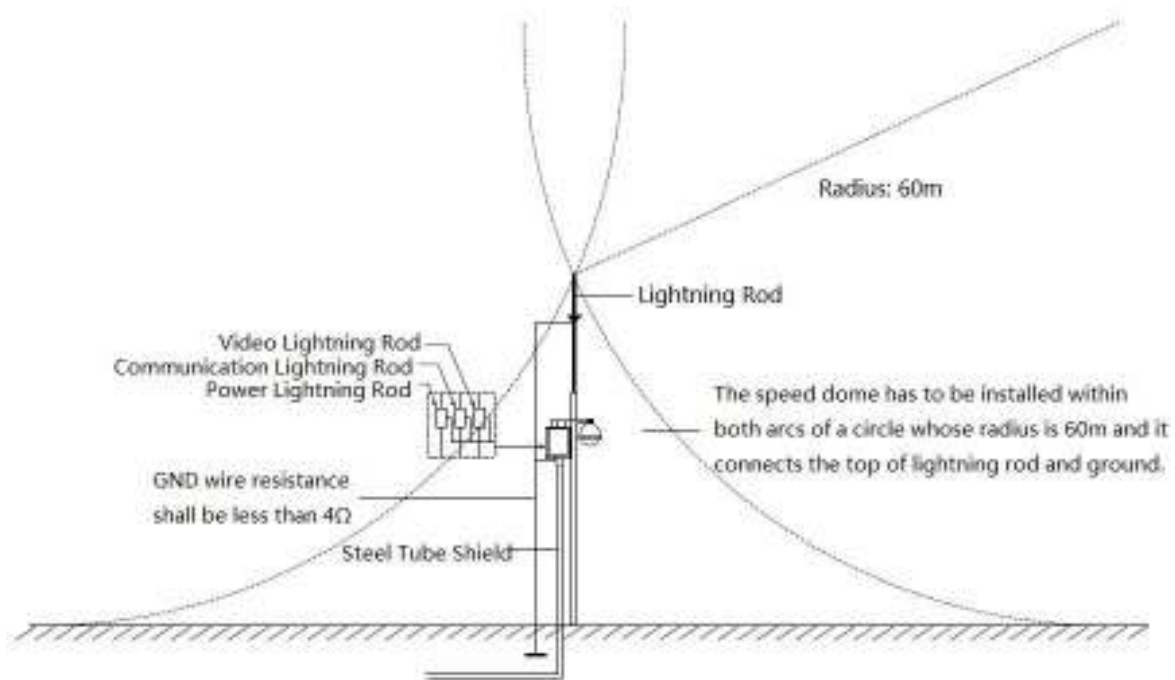

Figure 5-1
- System shall adopt equal-potential wiring. The earth device shall meet anti-jamming and at the same time conforms to your local electrical safety code. The earth device shall not short circuit to N (neutral) line of high voltage power grid or mixed with other wires. When connect the system to the earth alone, the earth resistance shall not be more than 4Ω and earth cable cross-sectional area shall be no less than 25 mm^2 . See Figure 5-1.